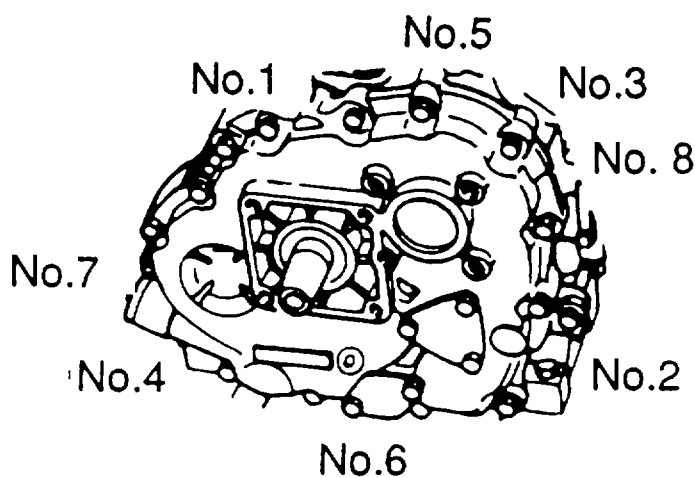

Figure 6-3. Tightening Sequence for Crankcase Cover Bolts.
- (1) Install lube oil inlet pipe (6) into crankcase cover (3).
- (2) Place a crankcase cover gasket (4) between the surface of the crankcase and the crankcase cover (3).
- (3) Apply oil to the lips of oil seal (5).
- (4) Apply lubricating oil to crankshaft and camshaft.
- (5) Make sure that the oil pump drive gears are properly engaged.
- (6) Carefully guide the crankcase cover (3) over the crankshaft and insure that the seal seats properly.
- (7) Attach crankcase cover (3) to the cylinder block using 14 bolts (1) plus additional bolt (2) located above the lube oil strainer.
- (8) Refer to Figure 6-3. Tighten bolts in sequence shown and torque to 72-96 in-lb (83-110 kg-cm).